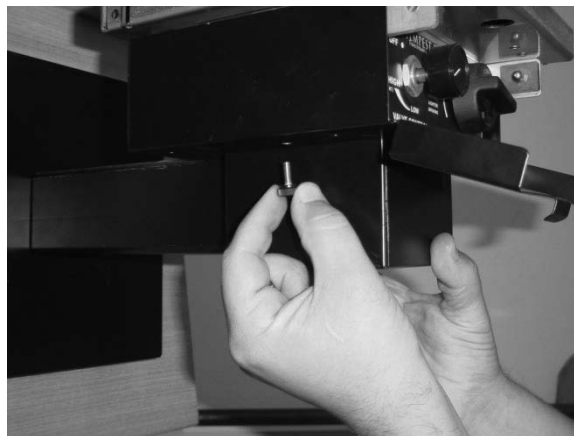

Figure 22
17. Attach the control cover to the lantern using the thumbscrews removed in step 9 (see Figure 22).